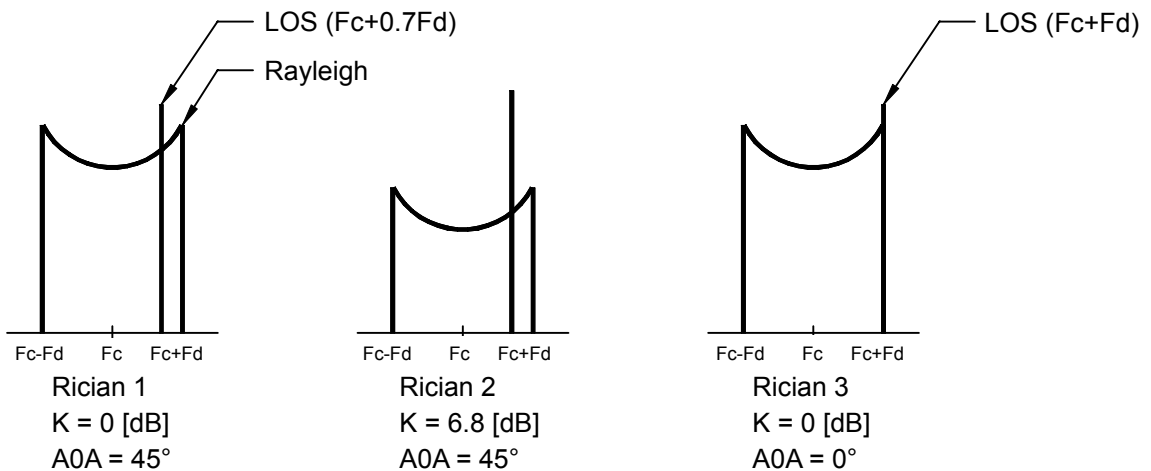

Figure 11-3 Carrier (CW) spectrum with Rician fading
Figure 11-3 shows the spectrum when Rician fading (Rician 1, Rician 2, Rician 3) are applied to the carrier (CW). (Fc: carrier frequency, Fd: Maximum Doppler frequency)